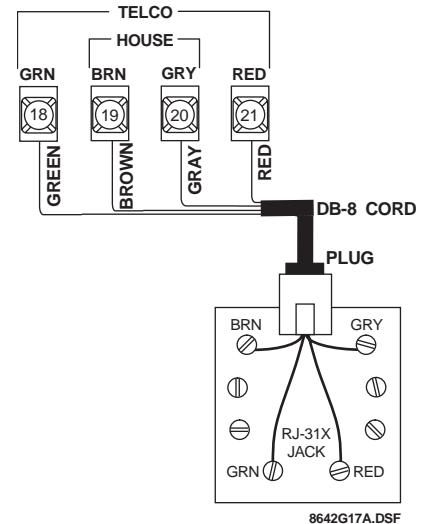

Figure 20. Connecting the DB-8 Cord to the Panel and RJ-31X Jack
1. Connect the green, brown, gray, and red flying leads from the DB-8 cord to panel terminals 18, 19, 20, and 21 (see Figure 20).
2. Insert the DB-8 cord plug into the RJ-31X (see Figure 20).